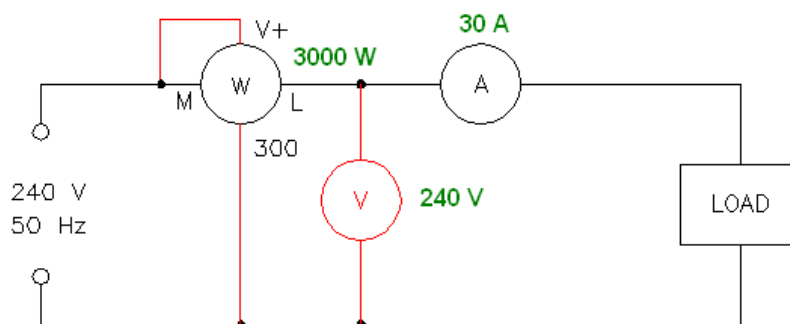

Figure 2 – Measuring a.c. power
6. The instruments necessary to measure the required values to construct a power triangle are shown on Figure 2.